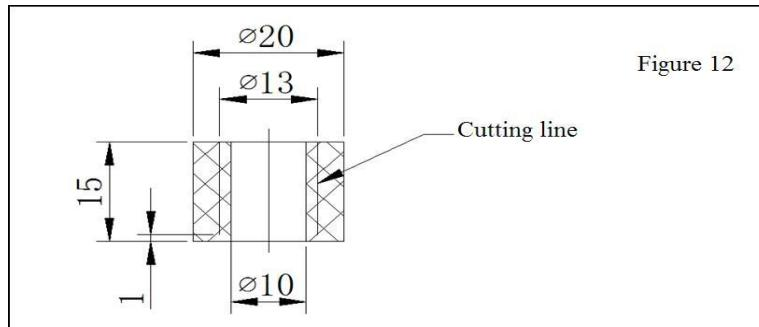

Figure 12
- 6. Aged sealing rings shall be replaced by one of the same specifications to ensure the explosion proof performance. See Figure 12 for the detailed specifications.